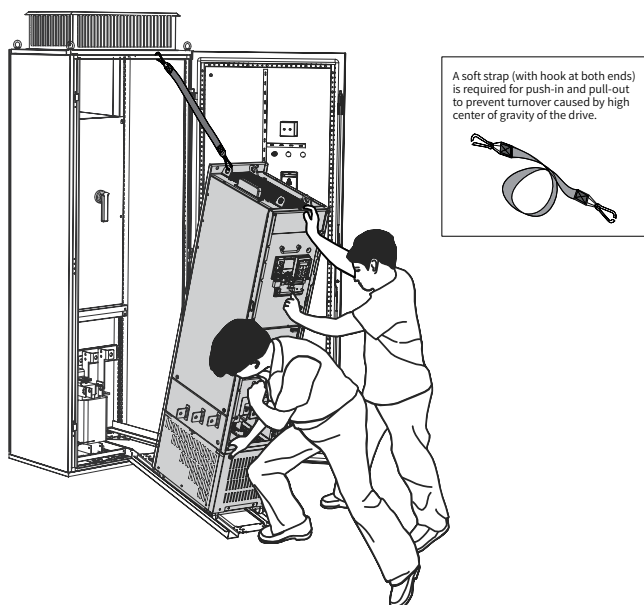
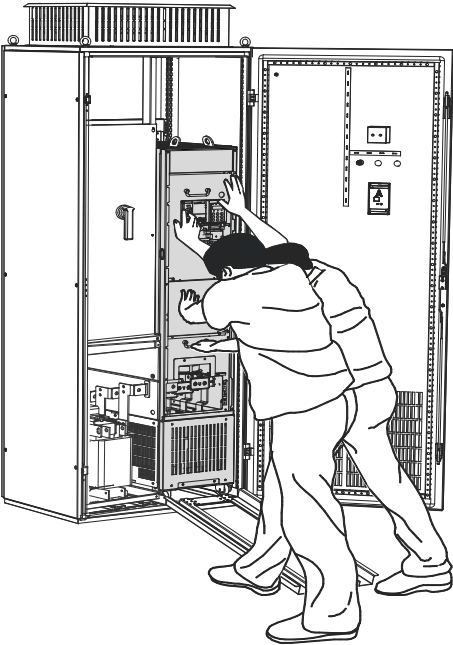

Figure 3-21 Pushing the servo drive into the cabinet
Figure 3-22 Installation completed
- ◆ Make sure to align the casters to the guide rails before push-in and pull-out. To ensure safety, arrange two workers to perform push-in or pull-out, as shown in Figure 3-21 and Figure 3-22.
5	Two operators work together to align the casters of the servo drive to guide rails and then slowly push the drive into the cabinet (see Figure 3-21 and Figure 3-22). Use a soft strap during push-in and pull-out to prevent turnover.